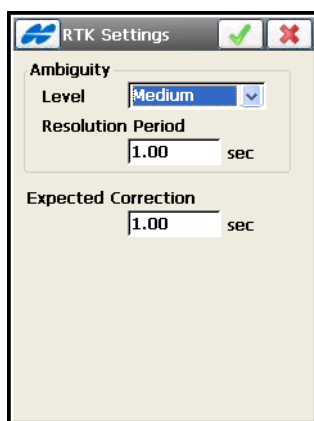

Figure 3-56. RTK Settings
- *RTK Settings*: opens the *RTK Settings* screen (Figure 3-56 on page 3-56) to set ambiguity resolution parameters for RTK engine.
The *RTK Settings* screen (Figure 3-56 on page 3-56) sets parameters to govern the RTK engine.